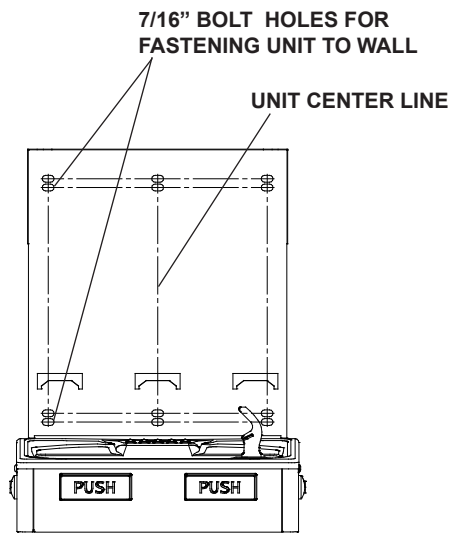

Fig. 6
- 2) Remove wall mounting plate from Bottle Filler. Place wall plate against wall on top of basin. Center the wall plate side to side with the basin. Mark the six (6) mounting holes with a pencil (See Fig. 6).
- 4) Install wall mounting plate to wall using six (6) 7/16" oround mounting holes (mounting bolts not included) (See Fig. 6). Use appropriate fasteners for your wall type.